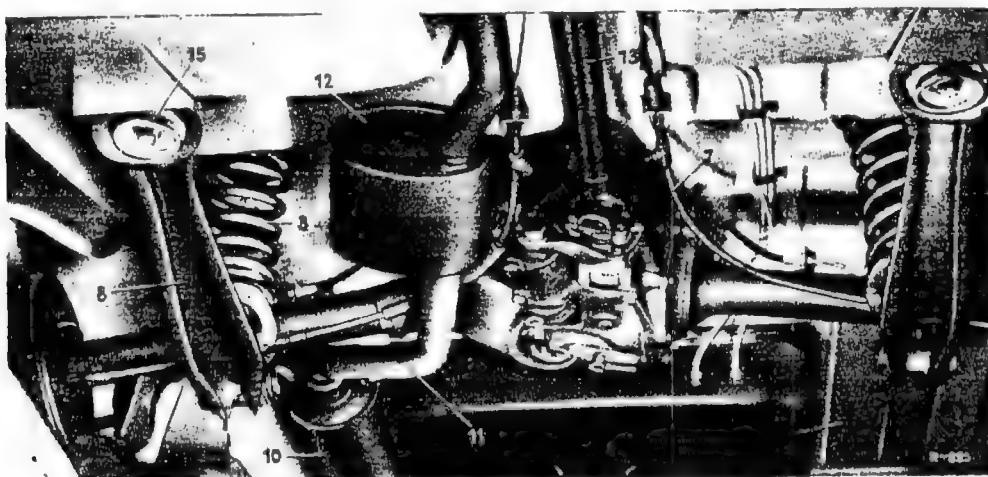

Fig. 35-1/1
3. Unfasten the pipe clip on the rear exhaust pipe. Prize out the rubber rings (1) of the rear exhaust suspension with a screw driver, taking care not to damage them. Remove the rear exhaust pipe together with the intermediate muffler and the main muffler (Figs. 35-1/1 and 35-1/2).